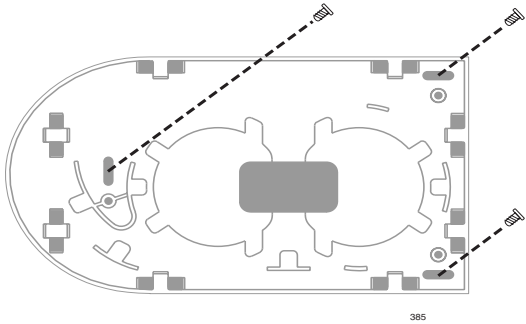

Figure 9. Mounting the Base to the Wall
5. Attach the base to the wall by inserting three screws (not provided) into the wall anchors, as shown in Figure 9.